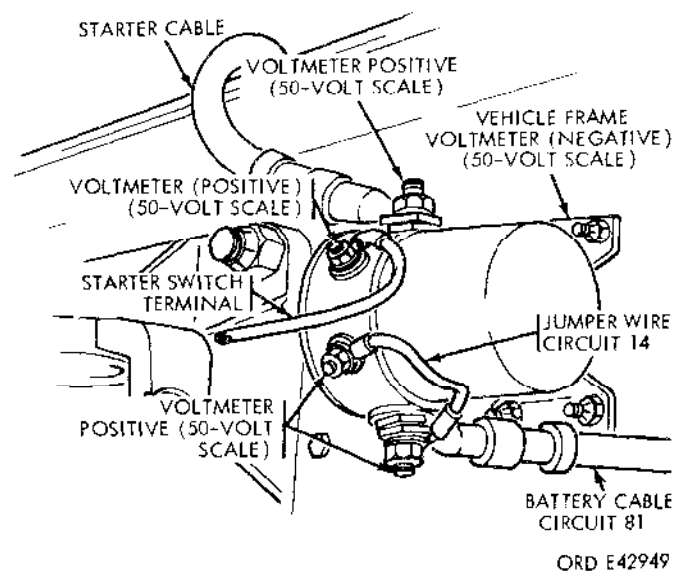

Figure 2-25. Solenoid test hookup.
(1) Set the voltmeter on the 50-amp scale. Connect the negative (black) lead (fig. 2-25) to the vehicle battery ground or frame. Connect the positive (red) lead to the battery side of the solenoid. The meter should read a battery voltage of 23 to 26 volts.
(12) Move the voltmeter positive (+) red lead to the small contact connected by circuit jumper wire number 14. The meter should read battery voltage.
(13) Move the positive (+) red lead of the voltmeter to the small terminal on the starter side of the solenoid (fig. 2-25). The meter should read battery voltage.
(14) If battery voltage is not obtained at this point, disconnect the wire, running to the starter switch, from the solenoid; the meter should read battery voltage. If no voltage is obtained, replace the starter solenoid (para 2-126). This test indicates that the coil is defective.
(15) If the battery voltage reading is present move the red positive (+) lead to the large terminal of the solenoid on the starter side (fig. 2-25). Depress the starter switch lever. The starter solenoid should close and the meter should read battery voltage.
(16) If solenoid does not close, use a jumper wire and ground the small starter switch terminal to the frame. The switch should close and the meter should indicate battery voltage. If the solenoid closes with this check, the starter switch circuit is defective.
(17) If the solenoid relay will not close during this check, replace the solenoid (para 2-126).